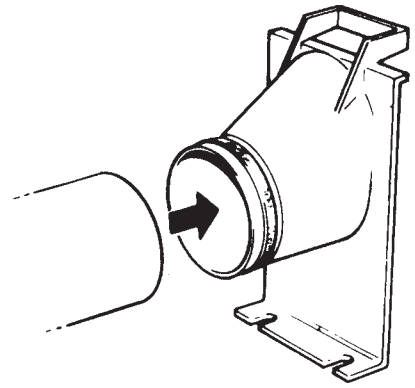

Fig.2
- ◆ From below the ceiling, push the back draught shutter through the hole, so that the bottom lip rests against the ceiling, along the side drilled with four screw holes. (Fig.2).